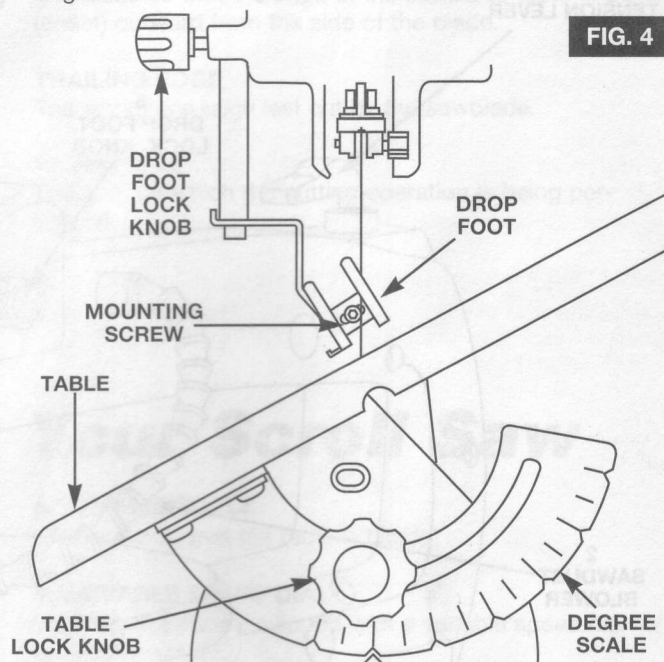

FIG. 4
1. Loosen the table lock knob, and the saw table can be tilted to the right or left and locked at any angle from 0 degree horizontal cutting position up to 45 degrees for bevel cutting (Fig. 4). Your tool also features table tilt detents which automatically stops the table to the right or left every 15 degrees.